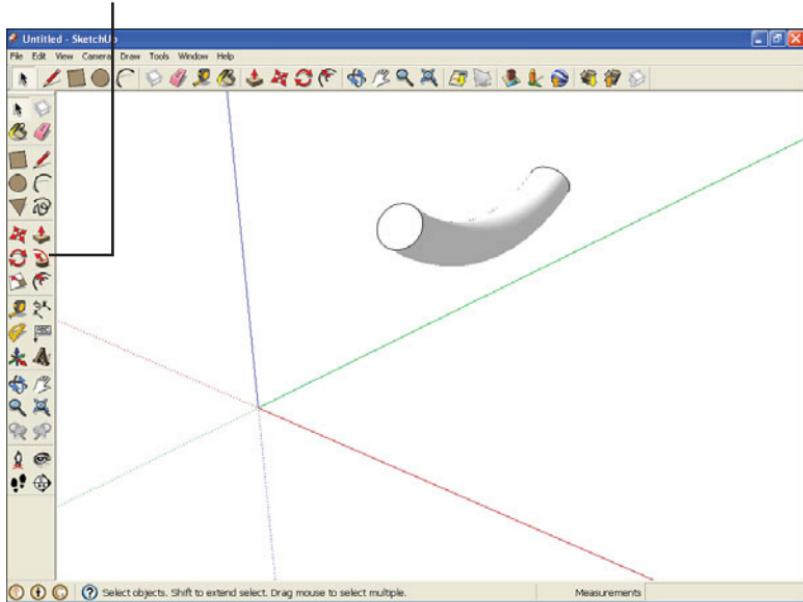

FIGURE 8.17 A curved object drawn using the Follow-Me tool.
The Follow-Me tool lets you drag shapes down a path you specify. Take a look at the object in Figure 8.17.
You sure can. All you need to do is to draw a circle, set up a curved path, then move the circle along the curved path with the Follow-Me tool (also shown in Figure 8.17). The Follow-Me tool lets you move shapes along paths to make them 3D. Here's how creating the shape shown in Figure 8.17 works:
13. Use the mouse to drag the circle along the arc. The Follow-Me tool senses that you're following the arc and keeps the circle moving along it to draw the shape you see in Figure 8.17.